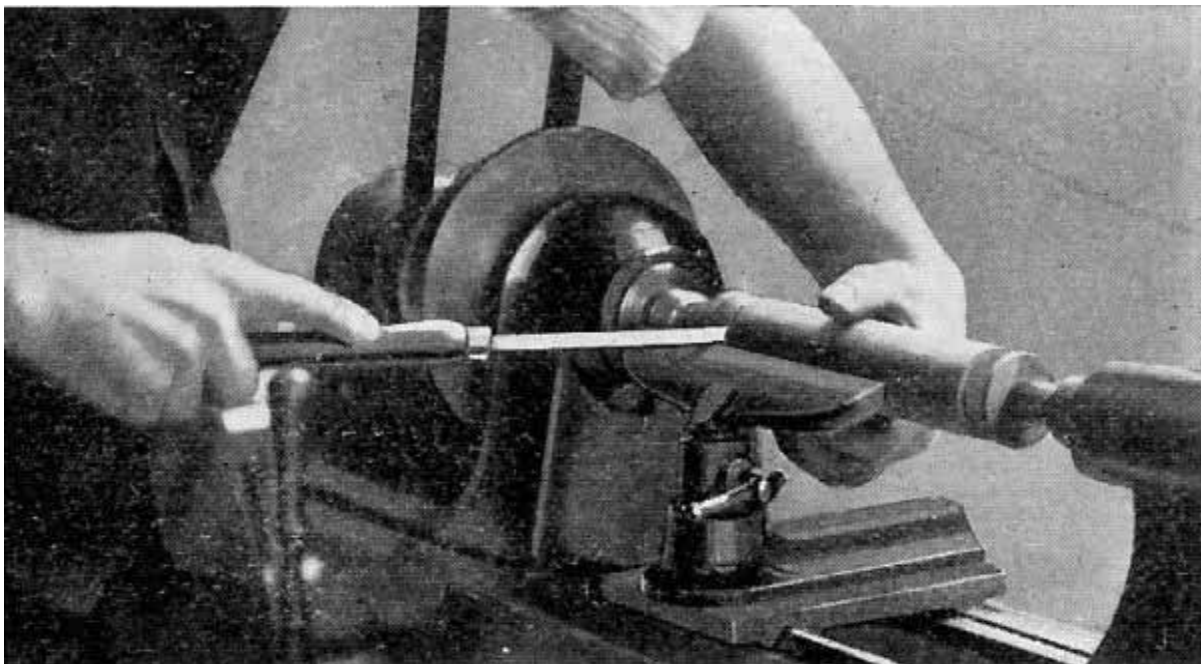

Fig. 9.
7. CUTTING OFF (SMALL SKEW). FIG. 9.